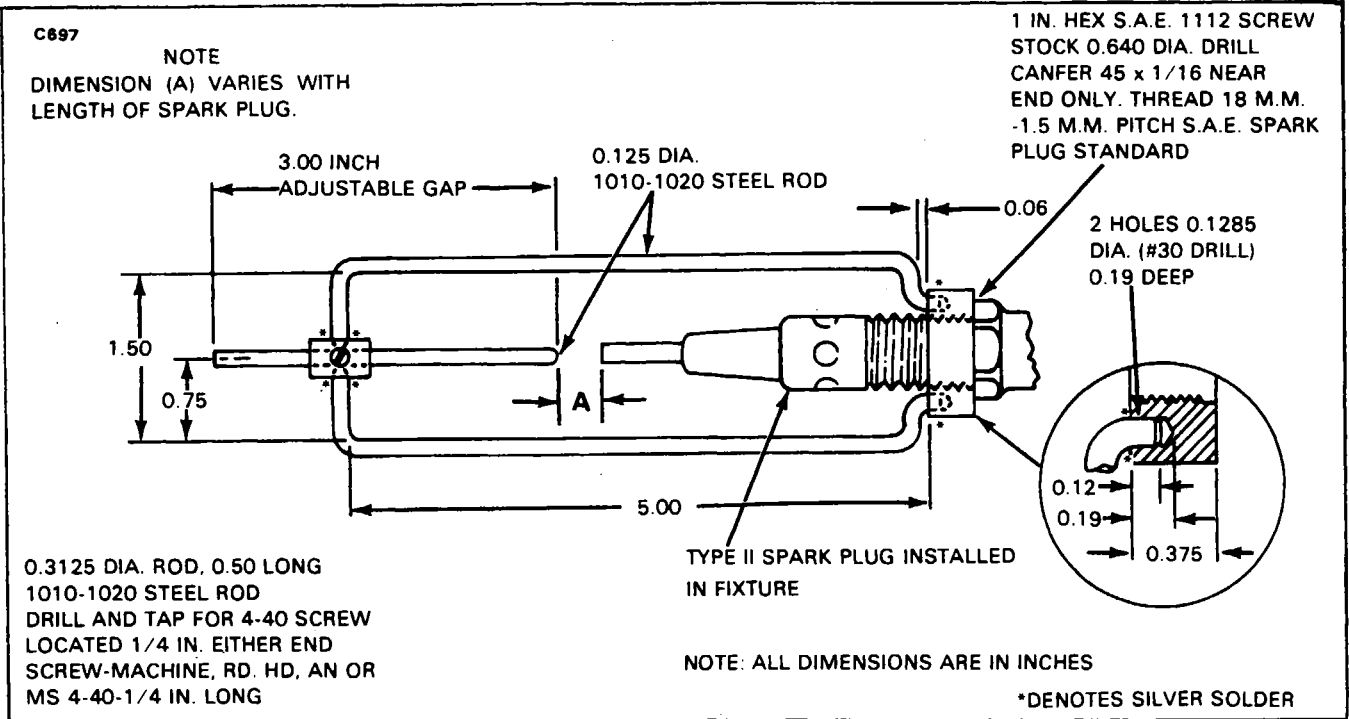

Figure 13-28a. Spark Plug Fixture
4. A spark gap of 0.187 of an inch +/-0. A convenient means of arranging the correct spark gap is to install a spark plug, P/N 39D18, in a test fixture arranged to provide a ground electrode and a .187 of an inch spark gap. (Refer to Figure 13-28a for information on fabricating this fixture.)
Any one of the several spark plugs may be used with the new spark plug fixture detailed in Figure 13-28a. However, the "A" dimension in that sketch must be varied with the length of the spark plug electrode to provide a gap of .187 of an inch for all spark plugs.